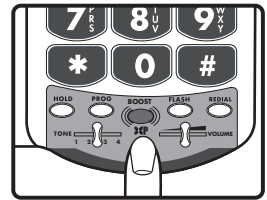

Figure 19
The ringer settings can be checked without making the ringer sound by pressing and holding the BOOST button for three (3) seconds. See Figure 19.